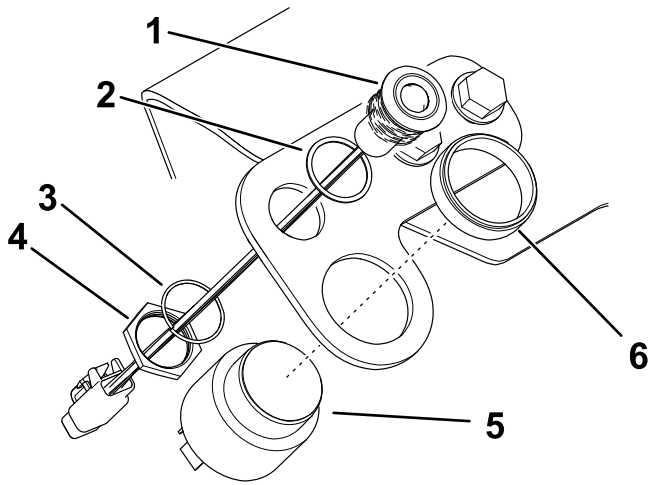

Figure 12
- Remove the plastic nut from the alarm and use it to install the alarm to the bracket (Figure 12).
- Remove the nut, lock washer, and gasket from the LED light and use them to install the light to the bracket (Figure 12).